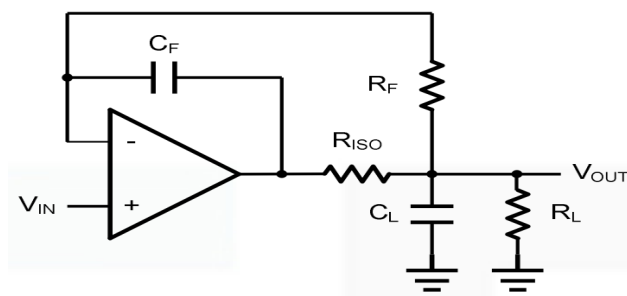
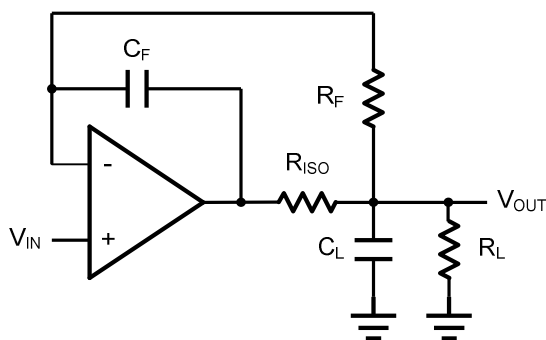

Figure 2. Indirectly Driving a Capacitive Load Using Isolation Resistor
Figure 3. Indirectly Driving a Capacitive Load with DC Accuracy
The LMV321/358 family is optimized for bandwidth and speed, not for driving capacitive loads. Output capacitance will create a pole in the amplifier's feedback path, leading to excessive peaking and potential oscillation. If dealing with load capacitance is a requirement of the application, the two strategies to consider are (1) using a small resistor in series with the amplifier's output and the load capacitance and (2) reducing the bandwidth of the amplifier's feedback loop by increasing the overall noise gain. Figure 2. shows a unity gain follower using the series resistor strategy. The resistor isolates the output from the capacitance and, more importantly, creates a zero in the feedback path that compensates for the pole created by the output capacitance.
The circuit in Figure 3 is an improvement to the one in Figure 2. R_F provides the DC accuracy by feed-forward the V_{IN} to R_L . C_F and R_{ISO} serve to counteract the loss of phase margin by feeding the high frequency component of the output signal back to the amplifier's inverting input, thereby preserving the phase margin in the overall feedback loop. Capacitive drive can be increased by increasing the value of C_F . This in turn will slow down the pulse response.